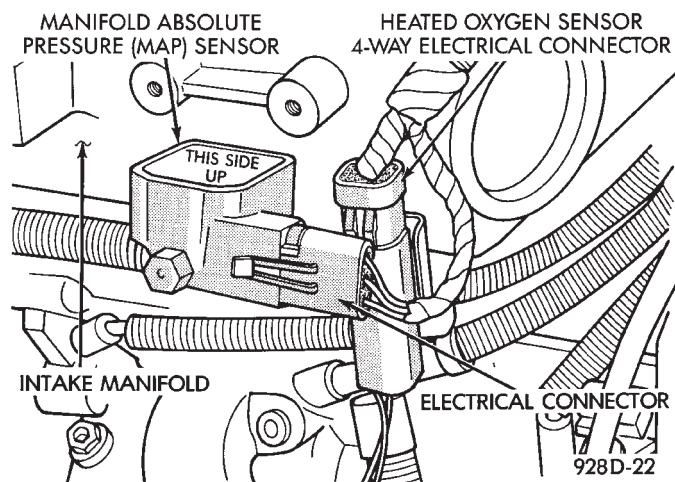

Fig. 20 Manifold Absolute Pressure Sensor
The alignment of the MAP sensor is critical to the sensors performance. The top of the sensor is marked This Side Up (Fig. 20).
(1) Disconnect electrical connector from MAP sensor.
(2) Remove sensor by unscrewing from the intake manifold (Fig. 20).
(3) Reverse the above procedure for installation.